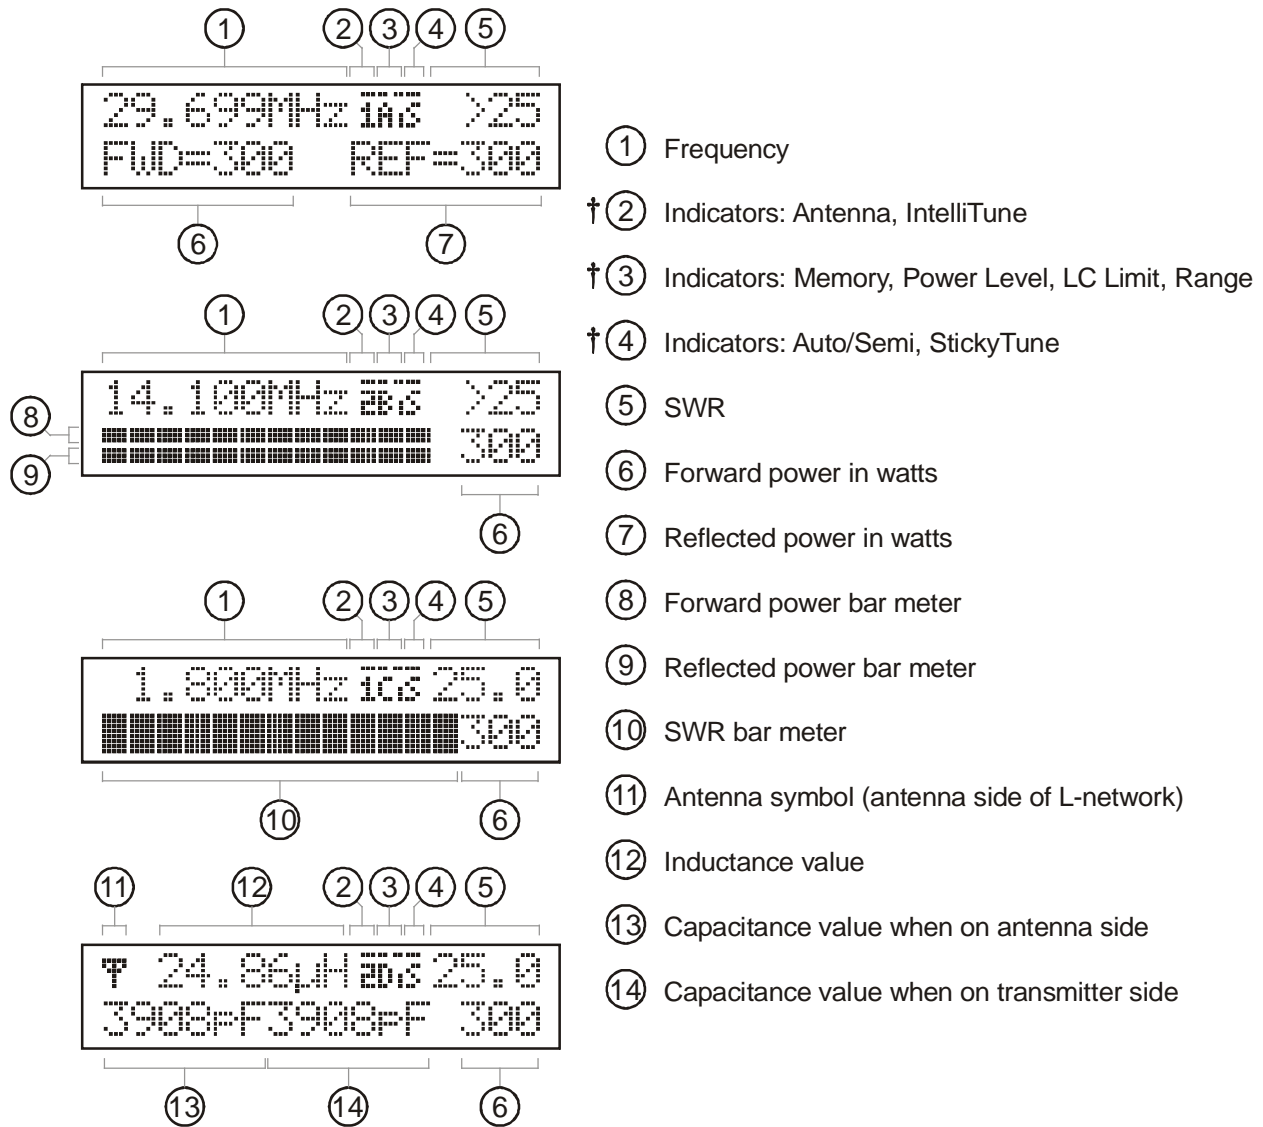
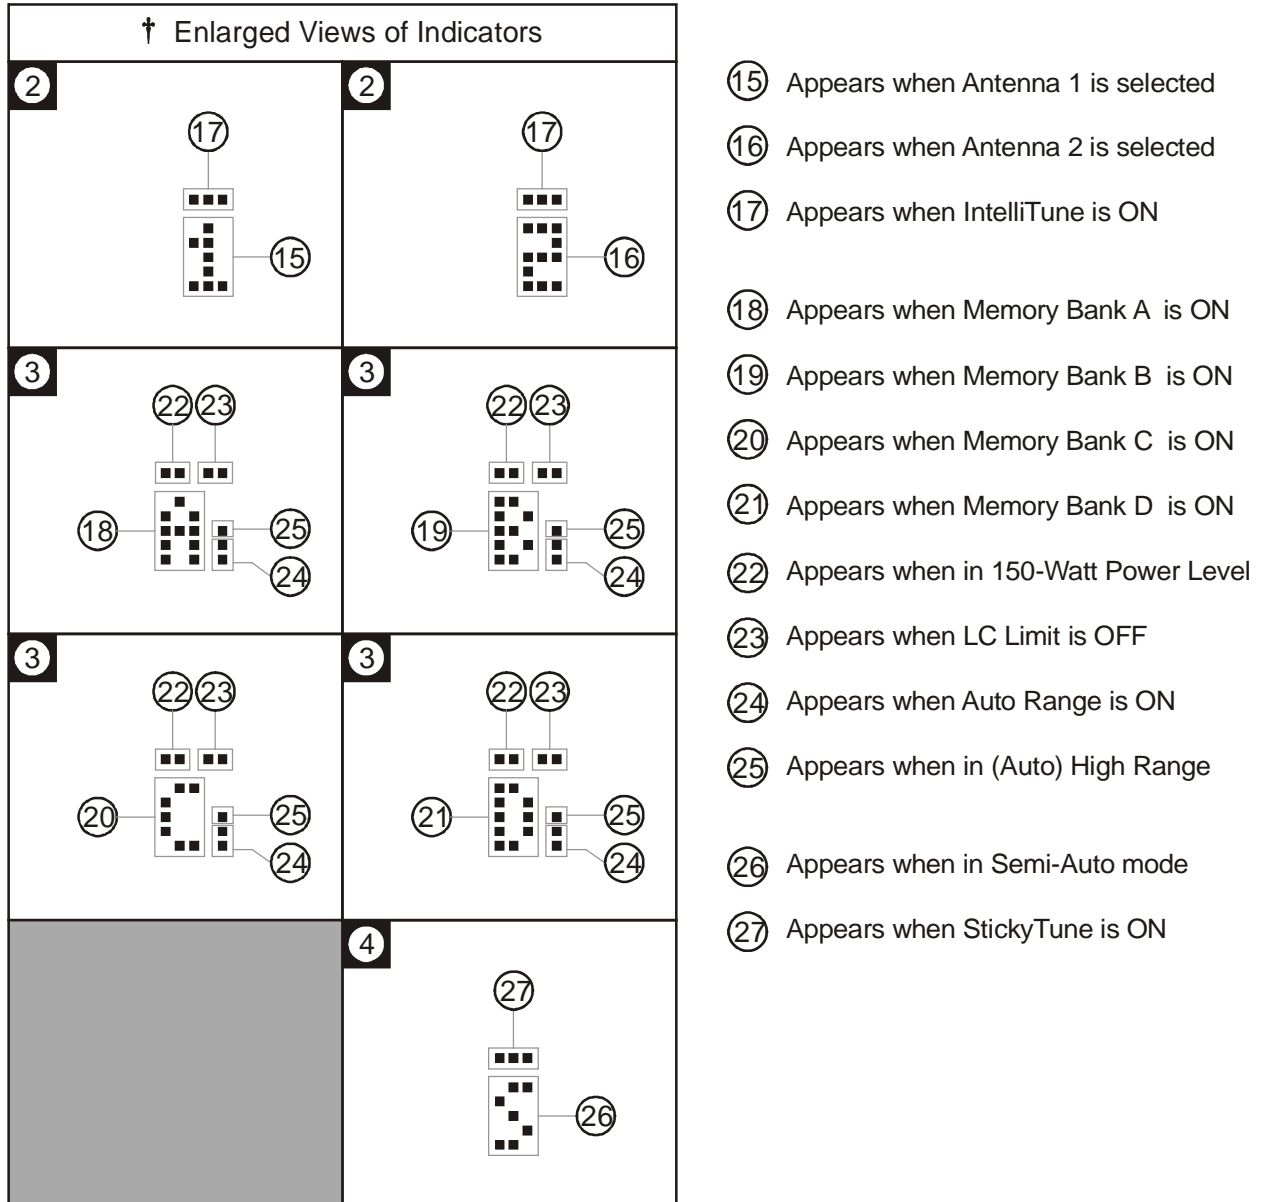

Figure 13. Main Mode Menus Display.
Figure 14. Tuner Indicators.
The meter can be set to low, high, or auto range. Auto range automatically sets the meter scales according to the input RF power to the tuner. Forward power greater than 30 watts or reflected power greater than six watts automatically sets the meter to the high power range. Forward power less than 25 watts and reflected power less than four watts automatically set the meter to the low power range. To cycle the meter range among low, high, and auto range, press the [TUNE] and [L-DN] buttons simultaneously. The forward needle will read “300” for high range, “30” for low range, and “100” for auto range until the buttons are released. When auto range is enabled, a two-dot vertical segment (low range) or a three-dot vertical segment (high range) appears in the lower right corner of the Range indicator on the main LCD screen. One beep indicates high range is selected; two beeps indicate low range; three beeps indicate auto range. Refer to Figures 13 and 14 for the on-screen Range indicator.
The main mode menus show various tuner settings and status. There are four main mode menus arranged in a “wrap-around” structure. When powered on, tuner operation starts with the main menu that was last used. Within each main menu, press the [MODE] button briefly to view the next main menu. Press and hold the [MODE] button for two seconds to enter the setup mode (see below). Various tuner indicators are shown on all four main menus: Antenna 1/2, IntelliTune™, Memory, Power Level, LC Limit, Meter Range, Auto/Semi, and StickyTune™. Refer to Figures 13 and 14 for details on the displayed information.
The power meter can be set to auto range. Auto range automatically sets the meter scale according to the input RF power to the tuner. Forward power greater than 30 watts or reflected power greater than six watts automatically sets the meter to the high power range. Forward power less than 25 watts and reflected power less than four watts automatically set the meter to the low power range. When auto range is enabled, a two-dot vertical segment appears on the on-screen tuner indicator. Refer to Figures 13 and 14 for the on-screen Range indicator.
Various tuner indicators are shown on the main menus to indicate tuner status. Refer to Figure 13 for locations of these indicators. The number enclosed within () is the item number of Figure 14.
Allows you to select the meter scale range. In the 30 watts (low) range, forward full scale is 30 watts and the reflected full scale is 6 watts (divide the meter reading by 10). In the 300 watts (high) range, the forward full scale is 300 watts and the reflected full scale is 60 watts. Auto range automatically sets the meter scales according to the input RF power to the tuner. Forward power greater than 30 watts or reflected power greater than six watts automatically sets the meter to the high power range. Forward power less than 25 watts and reflected power less than four watts automatically set the meter to the low power range. Refer to Figures 13 and 14 for the on-screen Meter Range indicators. Default is the 300-watt range.
The memory resolution for non-amateur frequency bands between 160 and 10 meters is approximately 0.2 percent of the lower frequency of that band. There are over 2500 memory locations for each memory bank, and each antenna has four memory banks (A-D). Tuner settings are stored in memory separately for Antenna 1 and Antenna 2 (settings for balanced line or single-wire antenna are stored as Antenna 1). This provides memory for up to eight different antennas. Refer to Figures 13 and 14 for the on-screen Memory indicator. Defaults are memory banks 1A and 2A ON.
Turns the *IntelliTune*[™] tuning algorithm on and off. When the tuner cannot find an appropriate setting in its memory, it begins its calculation function. It measures the complex impedance of the antenna (load) at the transmitting frequency, then it calculates the L/C components needed for a match. Then it fine-tunes the component values. If for any reason the tuner cannot calculate the load impedance, it proceeds to yet another method of calculation. If for any reason, this function can be turned off. Refer to Figures 13 and 14 for the on-screen *IntelliTune*[™] indicator. Default is ON.
The upper limits of inductance (L) and capacitance (C) are factory-limited according to frequency and maximum power rating; i.e., higher frequencies need less inductance and less capacitance when the L-network is properly tuned. Pressing [C-UP] and/or [L-UP] allows capacitance and inductance to be increased only to these limits. When a selected capacitance or inductance is higher than its allowed limit, and the frequency is changed, that selection is automatically reduced to the value of its limit. These limits are used to prevent matching of extreme load impedance outside the tuner’s specification, which may result in excess voltage and/or current across the tuner’s components. This setting is not stored in non-volatile memory and reverts back to the default when the tuner power is turned off. Refer to Figures 13 and 14 for the on-screen LC Limit indicator. Default is ON.